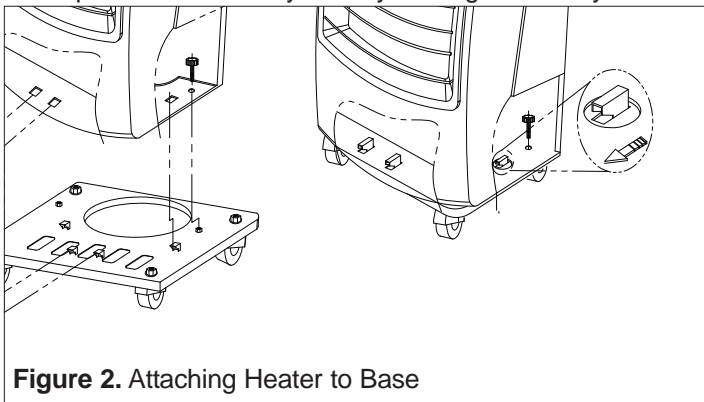

Figure 2. Attaching Heater to Base
- Line up holes in bottom of heater cabinet with locking tabs on top of base (see Figure 2).